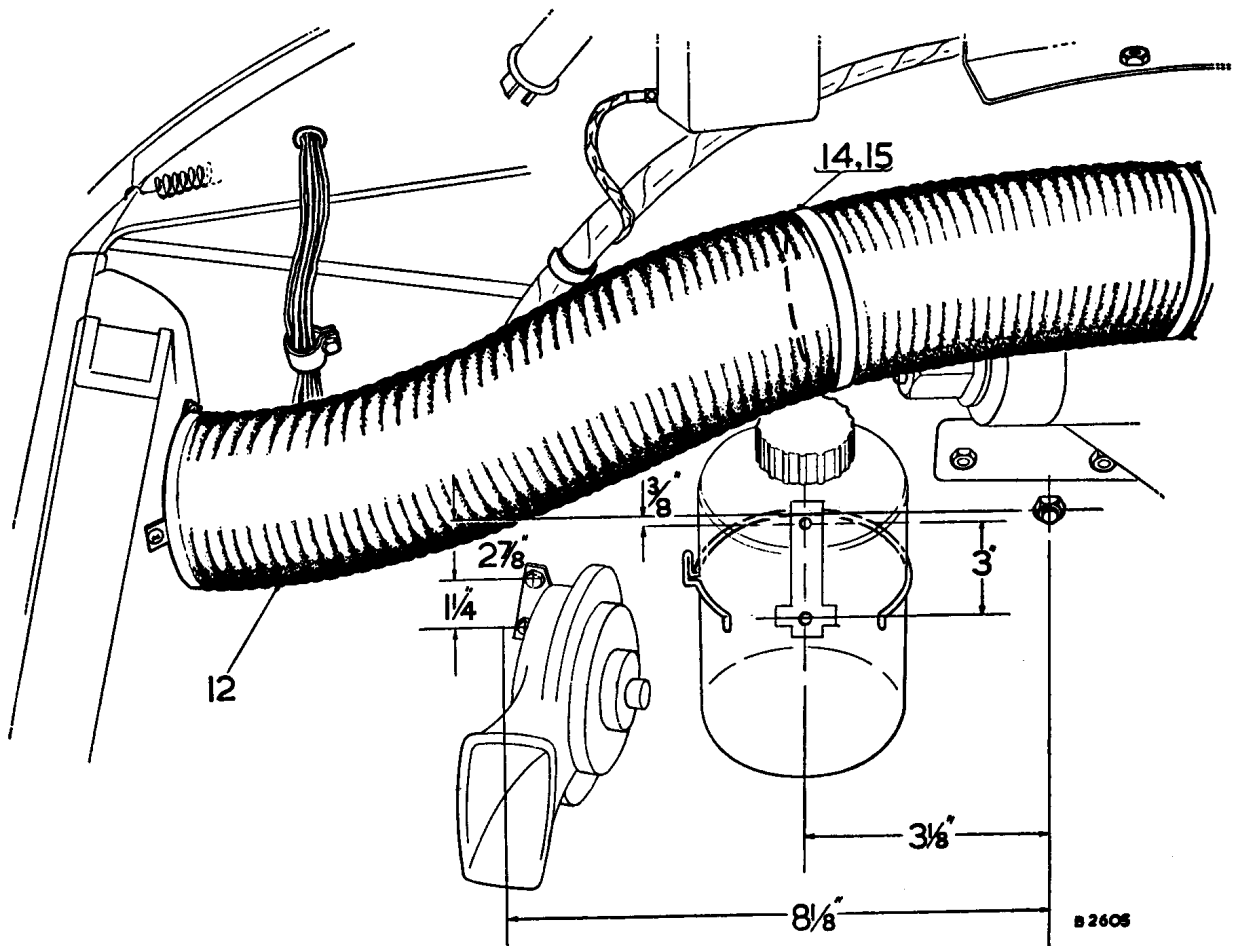

Fig. SS.7
Remove the horn and windshield washer bottle from the right-hand-side wing valance and reposition them (see Fig. SS.7). Slide cleats (14) along the large air hose (12), push the end of the hose over the intake ring adjacent to the radiator, secure the cleats with screws (15), and clip the hose to the intake ring with a clip.